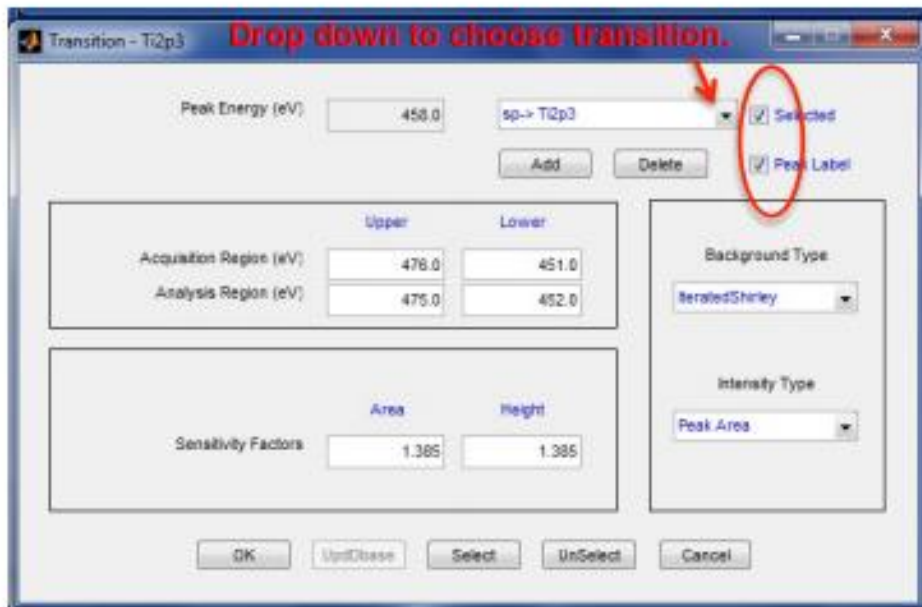

FIG 6. Transition dialogue box.
5. For a closer look at a region of the spectrum, zoom by using the left mouse button to click and drag a box. Press **XY (3)** to return to full scale.
- a. Hold SHIFT while selecting the element in the Periodic Table. A Transition dialogue box opens (**FIG 6**).